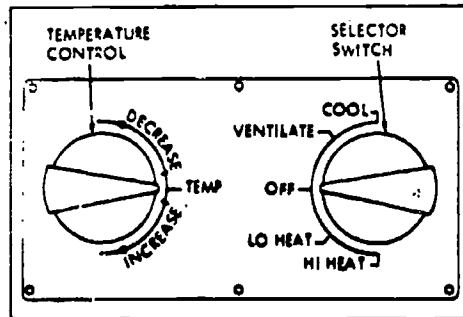

Fig 4-23. Control panel.
- (1) Selector switch. The selector switch, located on the control panel (fig 4-23), is a five-position switch which controls the type operation the unit is to perform.